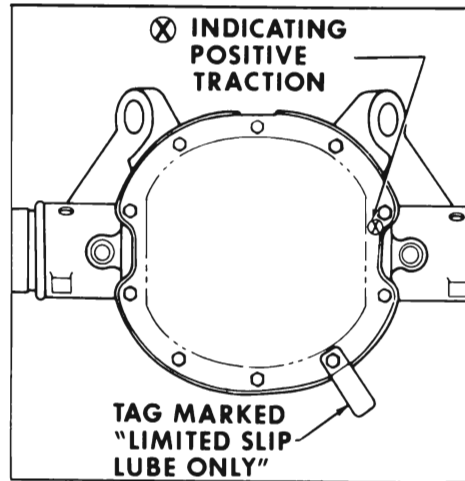

Figure 1-8—Differential Filler Plug (Positive Traction Shown)
6. Rear Axle. Check lubricant level after allowing time for lube to settle. Clean the surrounding area before removing filler plug. Level should be maintained at filler plug opening to 1/4" below by adding SAE 90 Multi-Purpose Gear Lubricant (MIL-L-2105-B). See Figure 1-8. When car is operated in temperatures continuously below - 10°F., use SAE 80 Multi-Purpose Gear Lubricant.
7. Positive Traction Differential Rear Axle. Identified by embossed tag around the differential filler plug, “Use limited slip differential lube only.” Check lubrication level after allowing time for lubricant to settle. Clean the surrounding area before removing filler plug. Level should be maintained at filler plug opening to 1/4" below by adding lubricant conforming to Buick Specification #723 only, as specified in paragraph 1-9. See Figure 1-8.